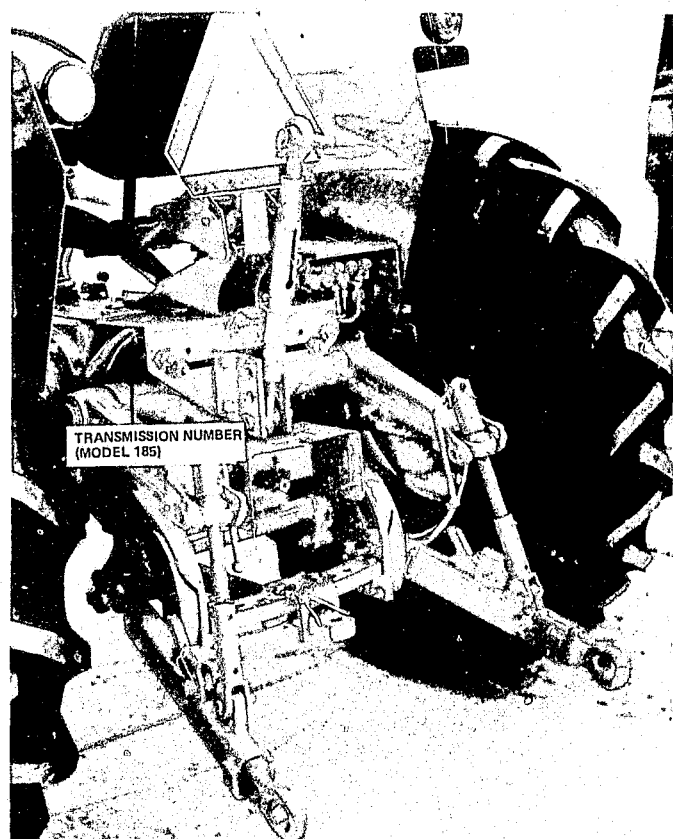

Figure 4
- The transmission number is die stamped into the upper rear of the transmission housing (remove shield under seat bracket for access). (See Figure 4)